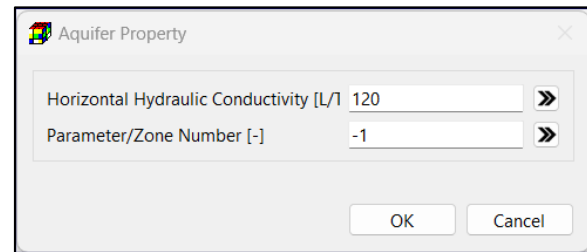

Figure 21. The Aquifer Parameter dialog box
- Figure 21 illustrates the Aquifer Parameter dialog box with these buttons. Clicking the button next to a parameter applies the data to the corresponding model cells along the polyline.